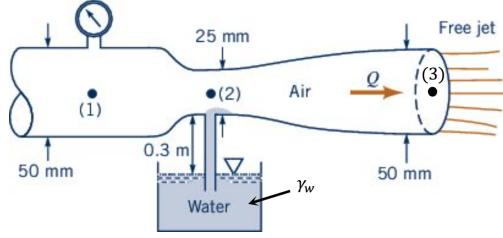

Figure 12: see problem 7
**Problem:** Air flows through the device shown in Figure 12. If the flow rate is large enough, the pressure within the constriction will be low enough to draw the water up into the tube. Determine the flow rate,  $Q$ , and the pressure needed at section (1) to draw the water into section (2). Neglect compressibility and viscous effects.
**Solution:** We want to know velocity and pressure at point (1). The velocity of the flow is unknown in the entire tube but we know the pressure at the outlet (point (3) in Figure 12) where we have a free jet with  $p_3 = 0$ . Therefore, we compare a steady flow along a streamline between point (2) and (3)
where  $p_0 = 0$  is the atmospheric pressure,  $\gamma_w = 9.80 \times 10^3 \text{ N/m}^3$  is the specific weight of water and  $h = 0.3 \text{ m}$  is the required height for the water to enter the tube (see Figure 12). Inserting the hydrostatic pressure  $p_2$  into the Bernoulli balance, we can solve for the velocity